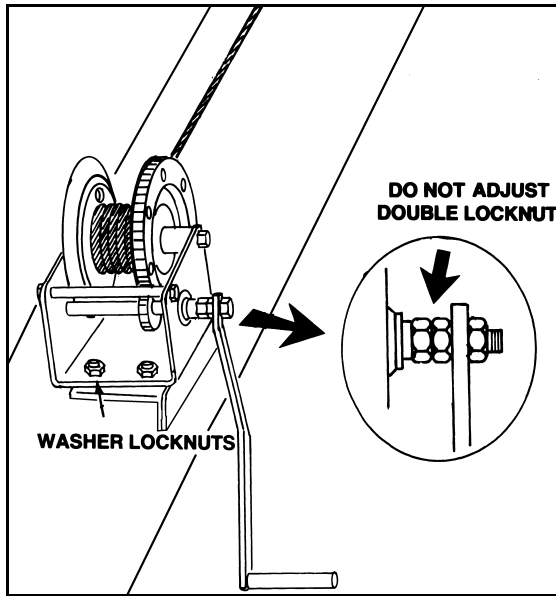

Figure 3.7
2. Attach winch to mount on lower arm with three 3/8" washer locknuts (Figure 3.7).